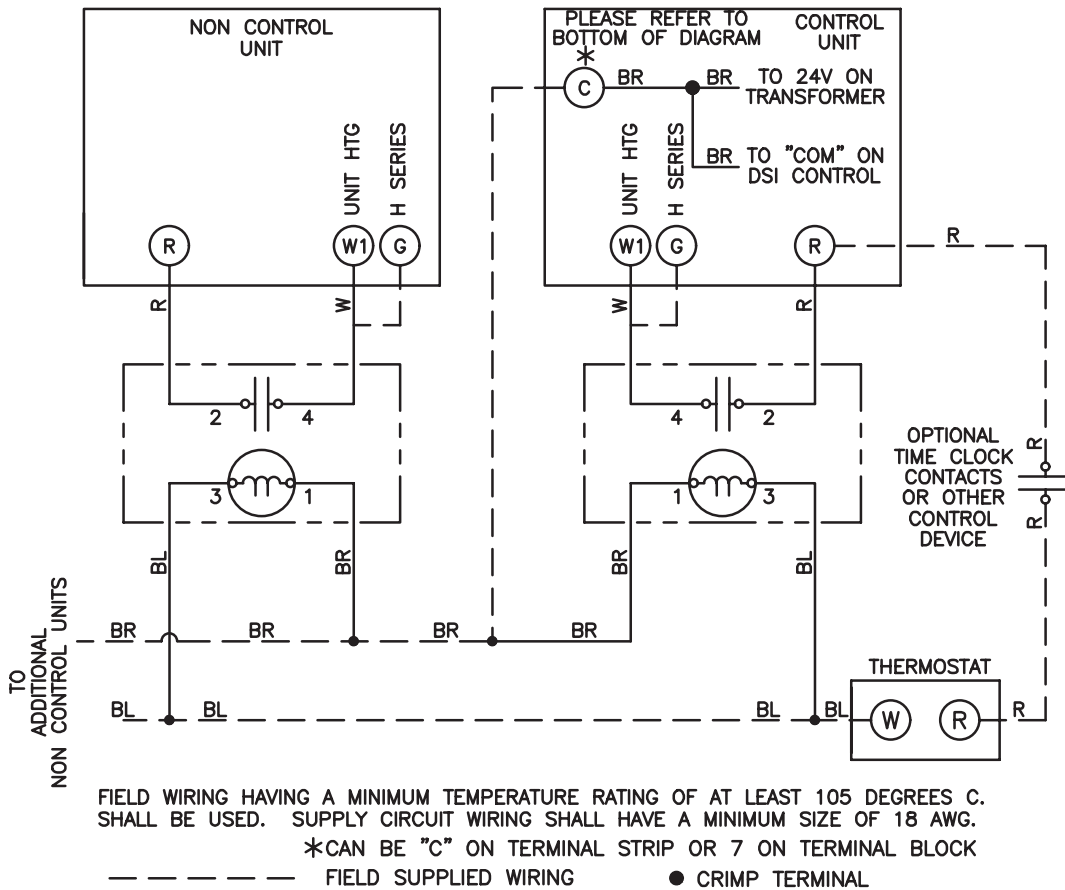

Figure 7. Multiple Unit Control Wiring Diagram
5. Connect TEW-type control wiring to relay terminals in accordance with **Figure 7**.